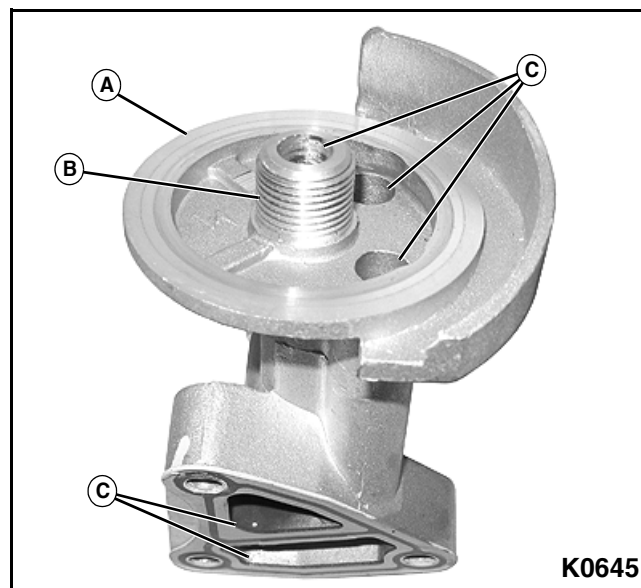

Figure 3-113
1. Inspect oil filter base (A) for cracks. **See Figure 3-113.**
2. Inspect oil filter mounting threads (B) for damage.
4. Clean oil filter base oil passages (C).